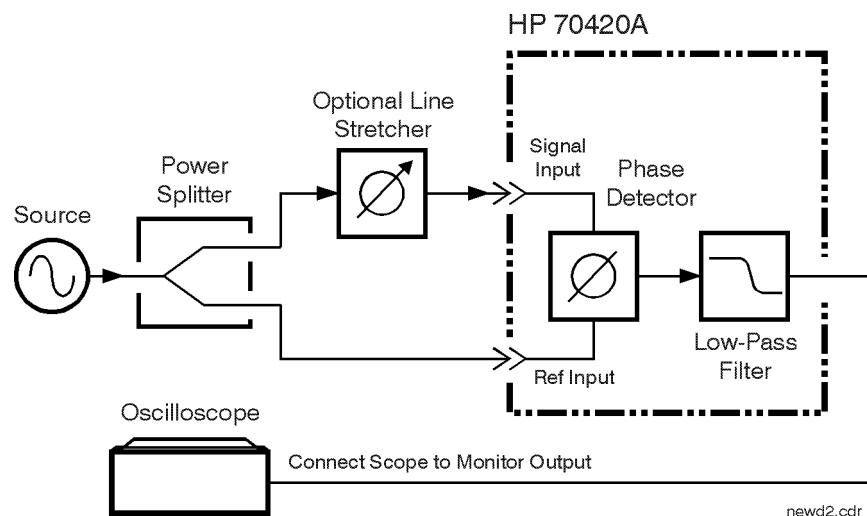

Figure 8-10 Connection to Optional Oscilloscope for Determining Voltage Peaks
- 1 Connect circuit as per Figure 8-10, and tighten all connections.